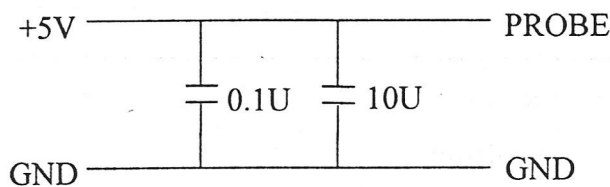

Figure 1.
1. Ripple & Noise: Measuring with by pass capacitors 0.1uf/10uf at output terminal and oscilloscope time-base set at 20MHz. (Tested by the oscilloscope and refer to figure 1.)
1. Ripple & Noise: Measuring with by-pass capacitors 0.1uf/10uf at output terminal and oscilloscope time-base set at 20MHz. (Tested by the oscilloscope and refer to figure 1.)